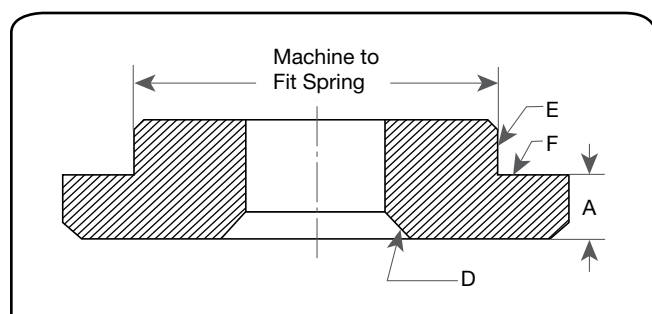

Figure 44: Lower Spring Washer F, G, and H Valves
1. Secure the eductor tube (40) in the base (1) by expanding or swaging into the hole provided. The upper end of the eductor tube should project above the guide surface of the base approximately .125" (3.18 mm) and the lower end should point directly and squarely toward the valve outlet. When the valve is assembled, the hole at the outer edge of the guide flange must fit loosely around the projection of the eductor tube.
2. For F, G and H orifice valves only, machine the new lower spring washer (17) (see Figure 44 and Table 21).
Drift Pins - Two drift pins are required for the removal of the disc (6) from the disc holder (8) (see Figure 44 and Table 25).